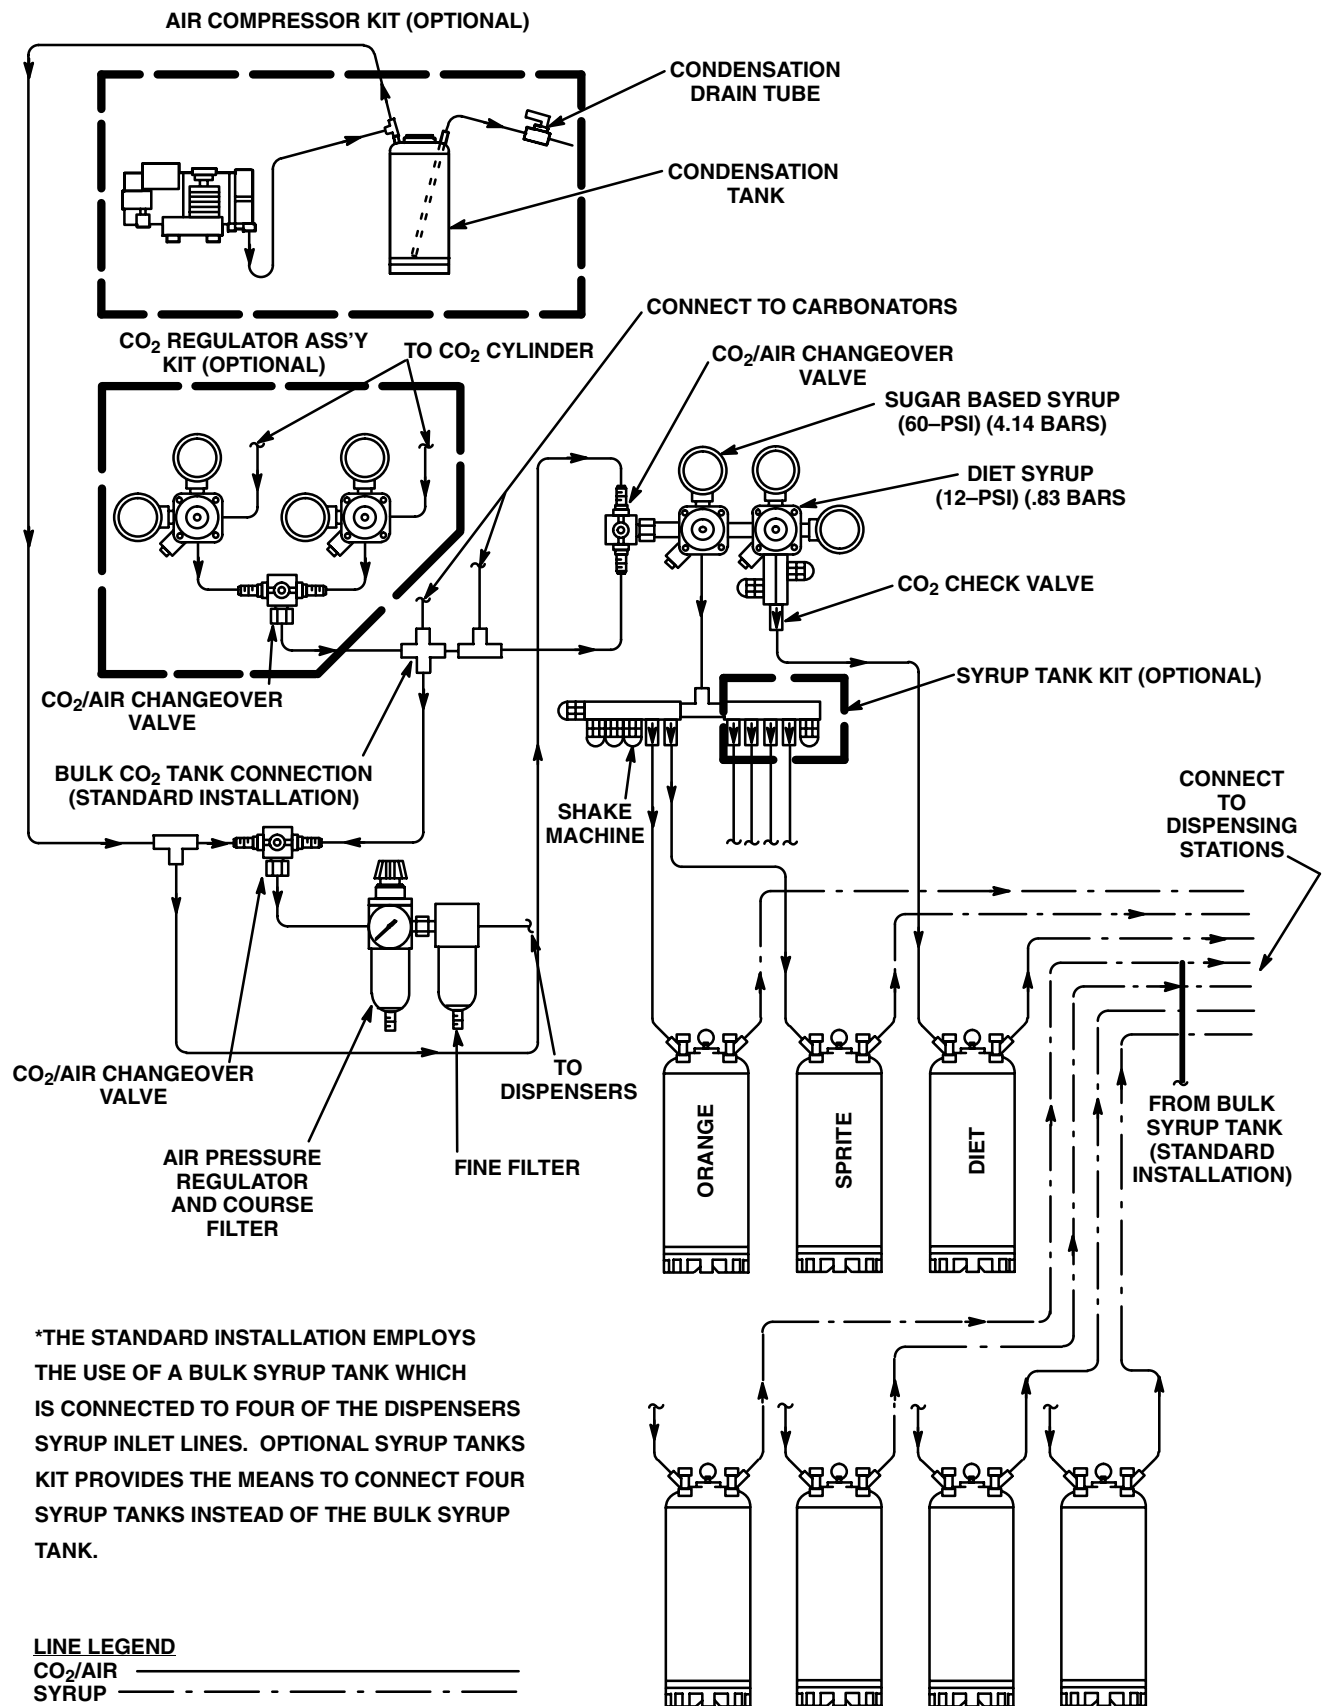

FIGURE 7. CO₂/AIR AND SYRUP SYSTEMS FLOW DIAGRAM
(see Figure 7)
6. Standard Installation (see Figure 7).
Installation employing the optional high–pressure CO₂ Regulator Assembly Kit (P/N 0708) (see Figure 7)
9. System Connected to Bulk CO₂ Supply (see Figure 7)
10. System connected to two fifty pound CO₂ cylinders (see Figure 7).
- B. Place CO₂/air switchover valve (see Figure 7) in air position.
- 17. Standard Installation Connected to Bulk Syrup Tanks (see Figure 7)
18. Installation Using Optional Syrup Tank Kit (P/N 0673) (see Figure 7.)